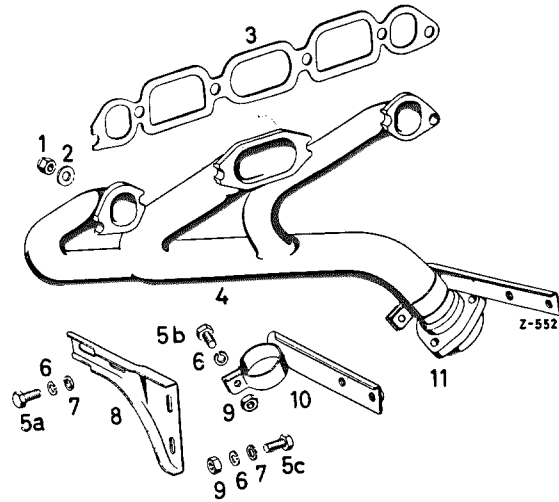

Fig. 01-4/19
1. Screw out the two hexagon screws (5a) for fastening the holder (10) to the support (8) and unscrew the hexagon screws together with nuts on the three-hole flange (11) (Fig. 01-4/19). Then unscrew the exhaust manifold and remove.
2. Test gasket (3) for intake pipes and exhaust manifold. Damaged gaskets should be replaced. For this purpose, remove intake pipes (Fig. 01-4/19).
3. Hold exhaust manifold to cylinder head and tighten hexagon nuts. Tighten hexagon nuts on screw of three-hole flange (11) and hexagon screw (5 a) which hold bracket (10) to support (8).